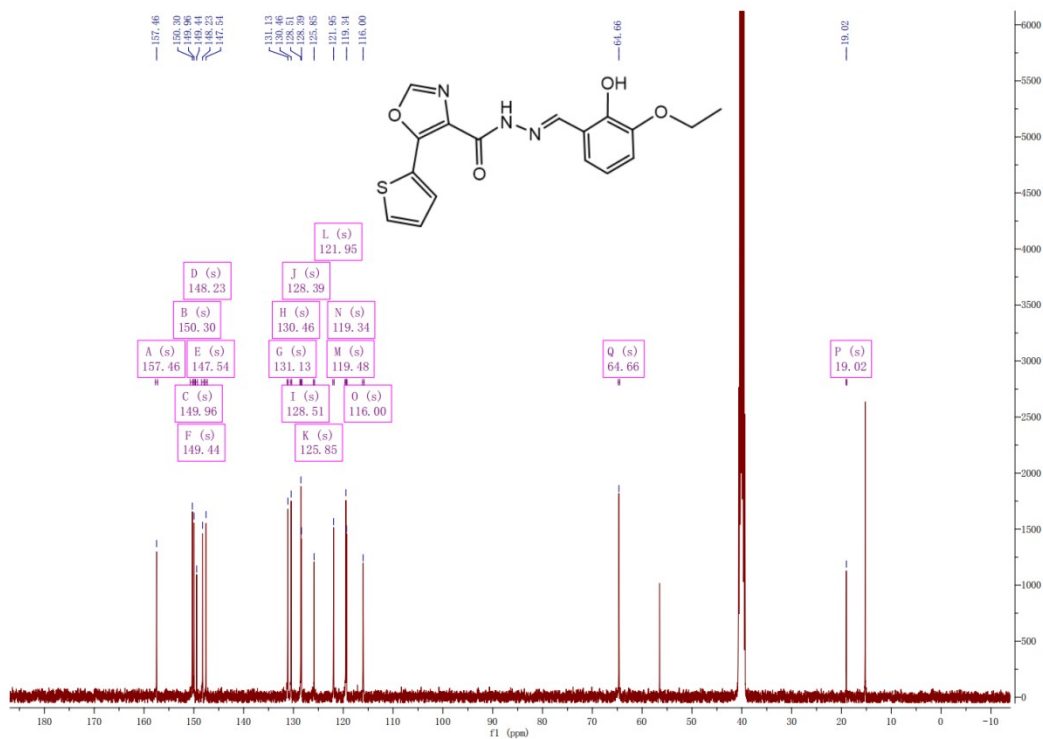

Fig. S6. ^{13}C NMR in $\text{DMSO-}d_6$ spectrum of L2.
6. **Figure S6.** ^{13}C NMR in DMSO- d_6 spectrum of **L2**.